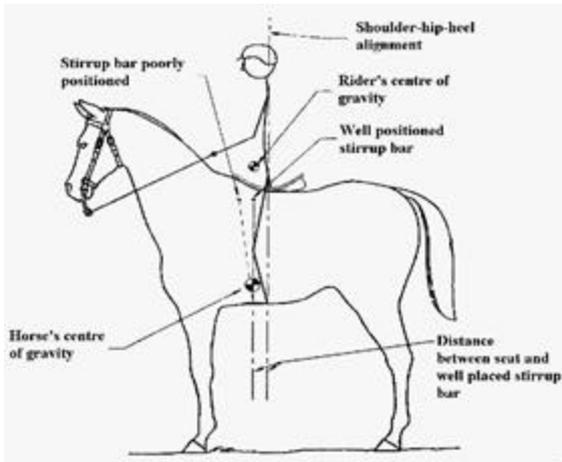

Figure 5
4. If all of the above is correct your centre of gravity should be placed over the horse's centre of gravity, see figure 5. But what about the shoulder-hip-heel (SHH) alignment?
5. To sit SHH without a struggle the distance from the centre of the seat to the centre of the stirrup bar should be the same as the distance from your heel to the ball of your foot as shown in figure 5. If the stirrup bar is placed too far forward the rider is not in a relaxed SHH position, as the leg has to be physically held back. When rising to the trot the legs swing forward on the stirrup leather pendulum and the sense of balance is lost. On the other hand if the leathers hang straight down from the stirrup bar to the ball of the feet we can rise in the trot without the leg swing. In addition sitting becomes gentler and more controlled, as the thigh muscles stay in closer contact with the saddle.